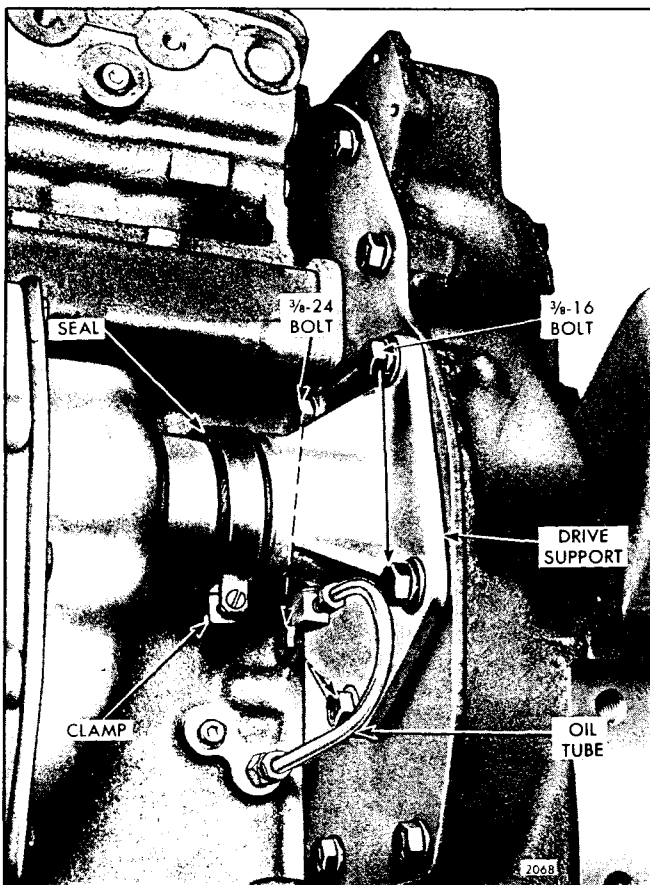
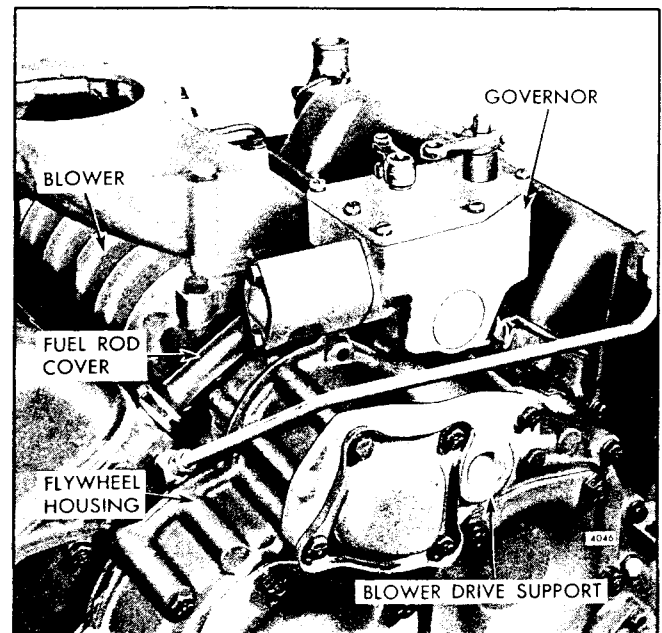

Fig. 1 - Blower Drive Support Mounting on 4-53 In-Line Engine
Fig. 2 - Blower Drive Support Mounting on 6V-53 Engine
The blower drive gear is driven by the camshaft gear (4-53 engine) or the left-bank camshaft gear (6V-53 engine). The gear is keyed and pressed onto a shaft, which is supported in the blower drive support. This support, on a 4-53 engine, is attached to the rear end plate on the blower side of the engine (Fig. 1). On a 6V-53 engine, the blower drive support is mounted on the flywheel housing (Fig. 2).
2. Refer to Fig. 1 and loosen the blower drive seal clamp.
2. Disconnect the lubricating oil tube (Fig. 1) from the blower drive support.